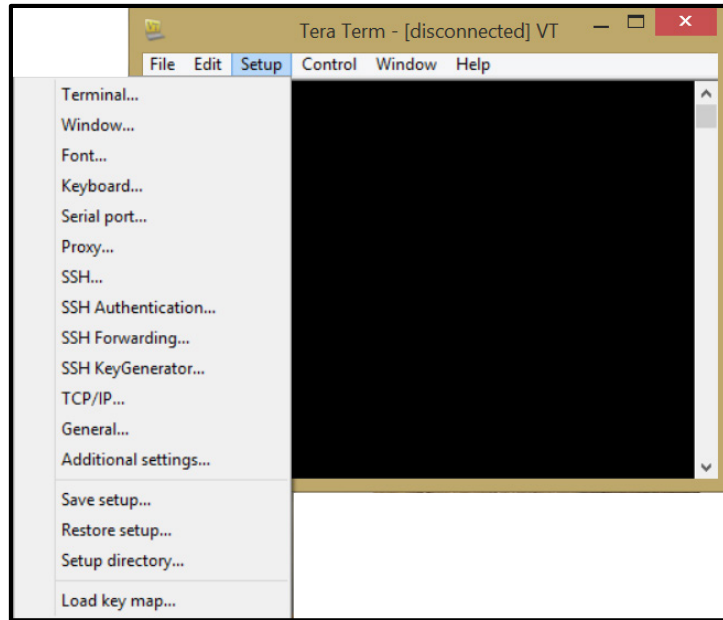

FIGURE E-2. Setup Selections
- FIGURE E-2 shows the standard *Tera Term* working screen and the pull-down menu for **Setup**. To see this screen, click on **Setup** at the top of the screen.